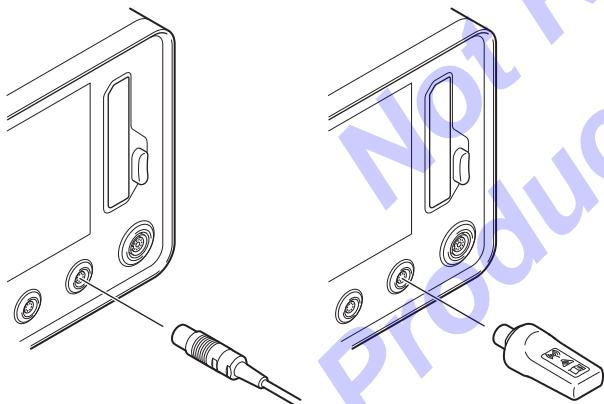

Figure 124 – Foot Pedal or Wireless Receiver Removal
1. Disconnect the foot pedal cable connector or the wireless receiver from the console (Figure 124).